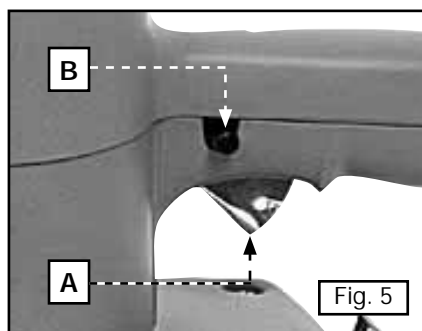

Fig. 5
This tool is equipped with a trigger switch (A) Fig. 5. A switch-locking button (B) is located on the left side of the handle. Start the motor by depressing the trigger. Stop the motor by releasing the trigger. To keep the motor running without holding your finger on the trigger, depress the trigger, push in on the locking button and release the trigger. To release the locking button, depress the trigger and release.